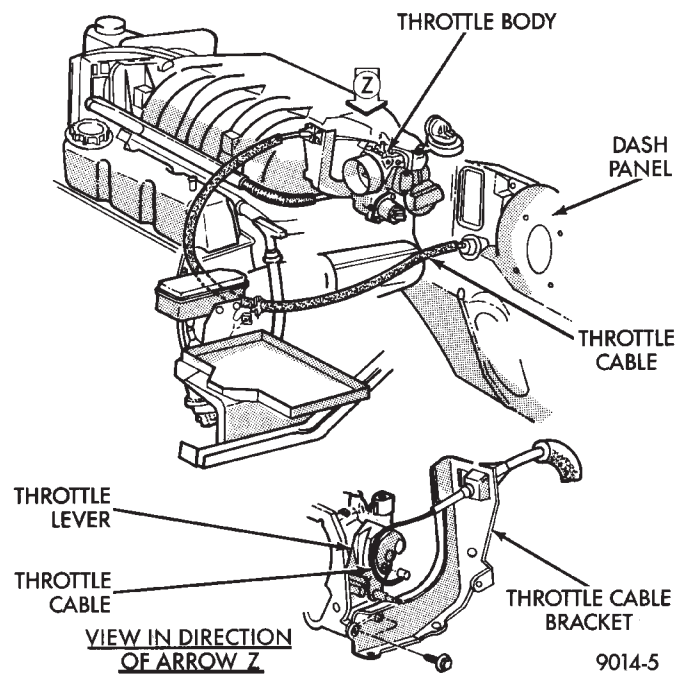

Fig. 3 Throttle Cable Attachment
(4) Remove throttle cable (Fig. 3). Remove wiring harness from throttle cable bracket.